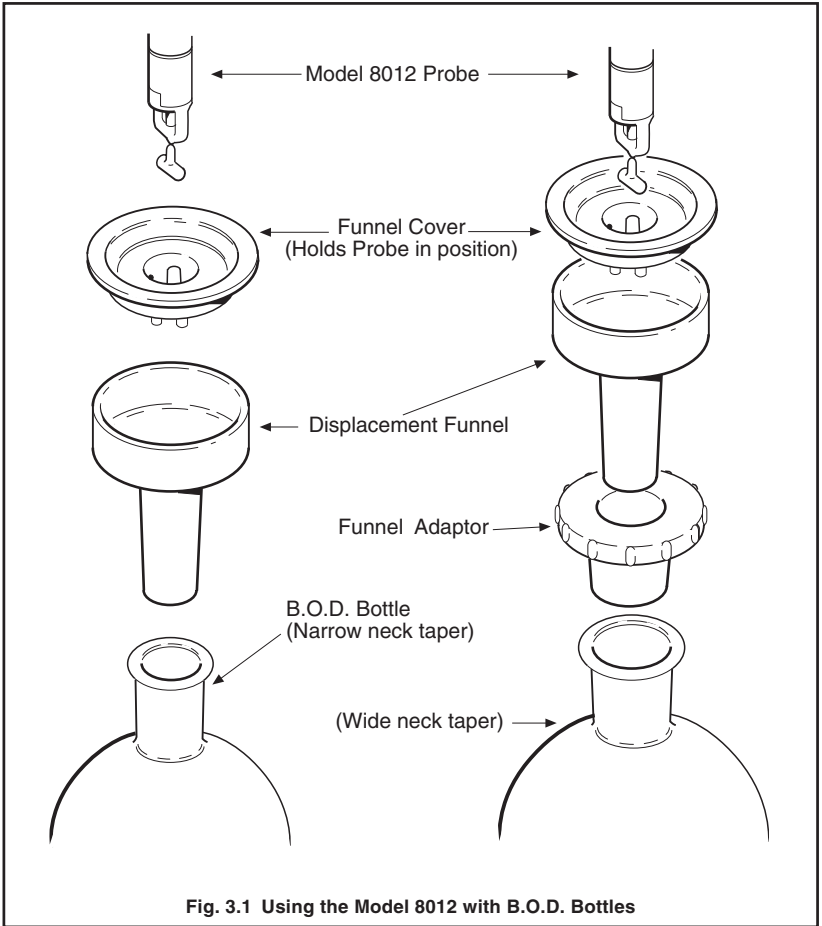

Fig. 3.1 Using the Model 8012 with B.O.D. Bottles
3.3 B.O.D. Measurement (Fig. 3.1)